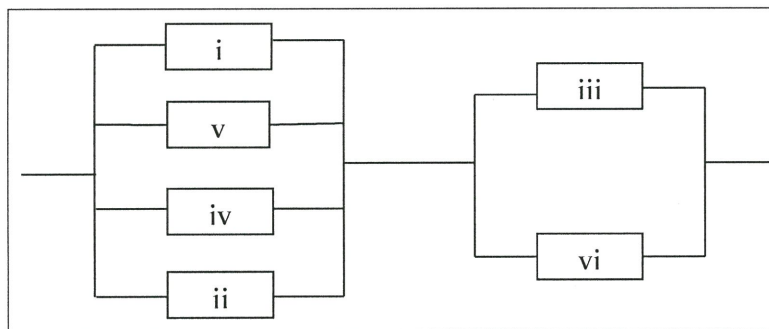

Figure Q5
- Q5** (a) Describe **THREE (3)** phases of Failure Rate Curve (FRC). (6 marks)
- (ii) The reliability of the components (i, ii, iii, iv, v and vi) in **Figure Q5** are 0.600, 0.623, 0.611, 0.682, 0.622 and 0.653.